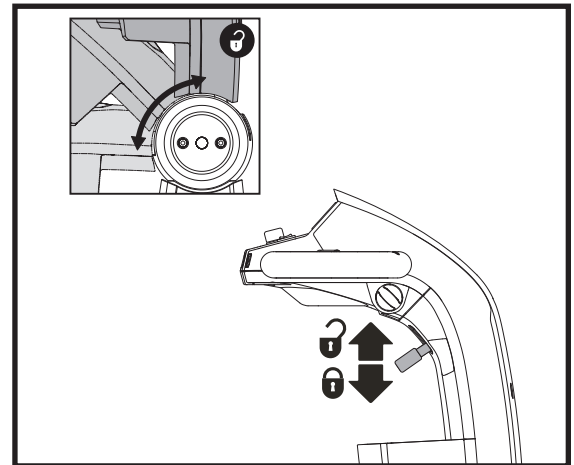

Figure 14. Tiller Adjustment Knob
1. Lift the tiller adjustment lever. See figure 14.